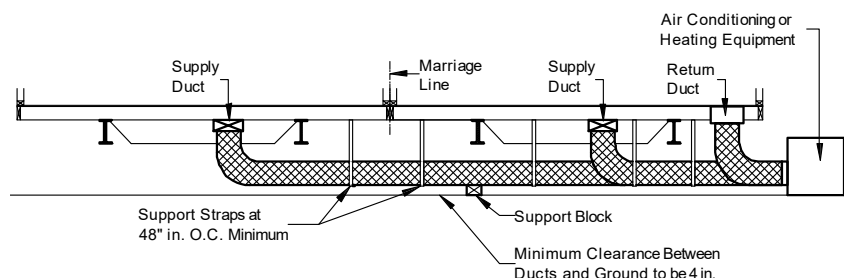

Figure 88. Ducts connecting exterior heating and/or cooling equipment to the home
2. **Install ducts.** Install the appropriate supply and return ducts (not provided) between the remote unit and the home (**Figure 88**) making connections according to the instructions for crossover ducts in **Crossover Connections** (p. 51).